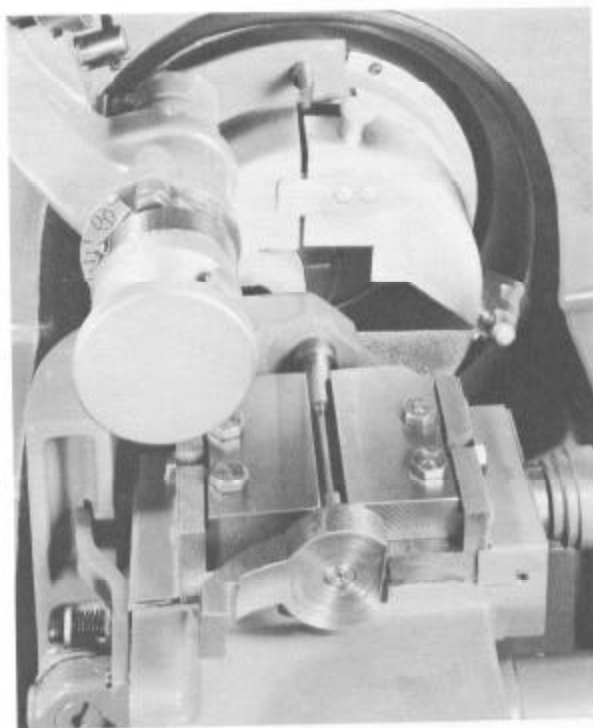

Figure 13b
Remove the locator bushing from the locator arm. After inserting the gage in the jaws so that its arm faces the operator, swing the locator arm into the position used for locating a drill and advance the jaws so that the round end of the gage enters the hole in the locator arm, as shown in Figure 13b. If the gage does not slide into the hole freely, remove set screw (78) and loosen the set screw (77). Rotate the eccentric pin (87) with a screwdriver until the round end of the gage slides freely into the locator hole.